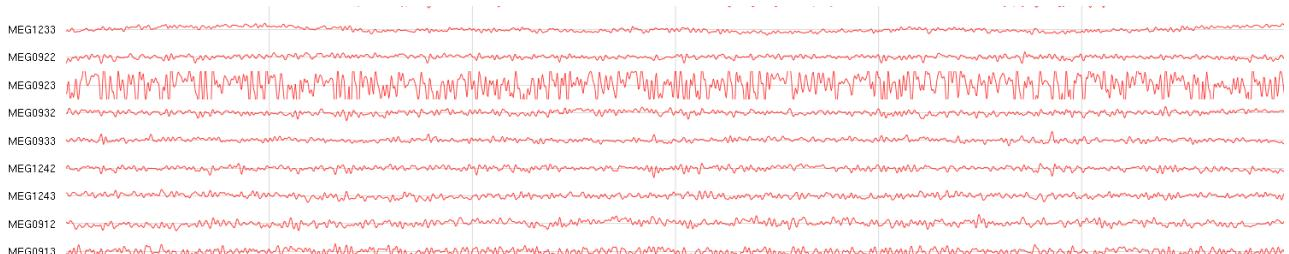

Figure 35: Example of a noisy channel.
- Browse through the channels in the raw data display and visually identify any noisy channels (Figure 35). Typically, they will fall into one of the three categories: